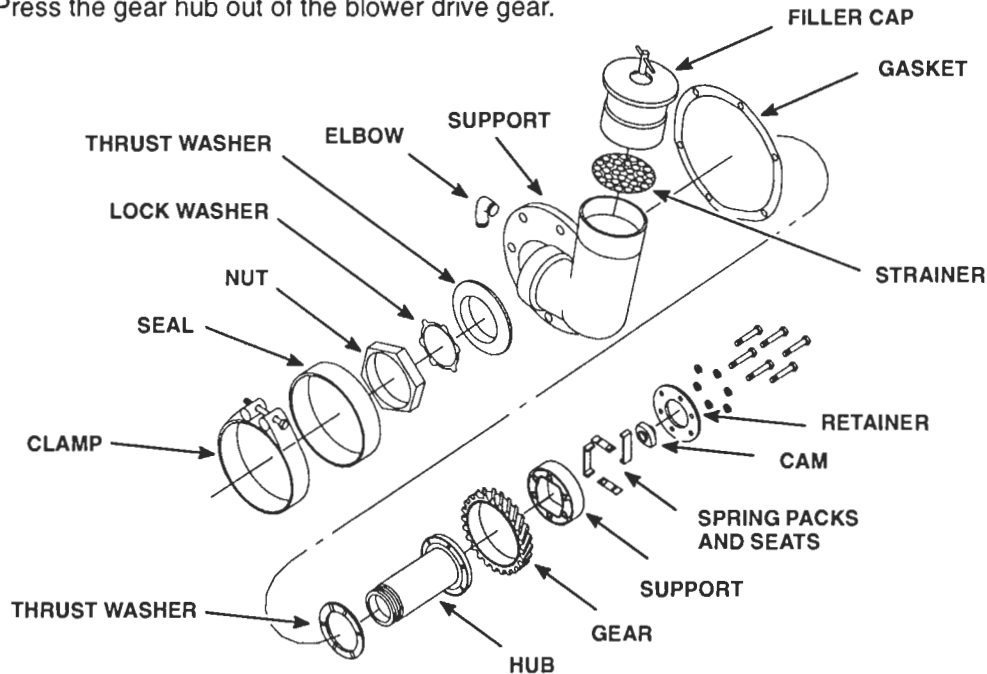

Figure 5. Blower Drive Gear Parts
2. Take out the drive coupling bolts and remove the retainer and coupling support (Figure 5.)